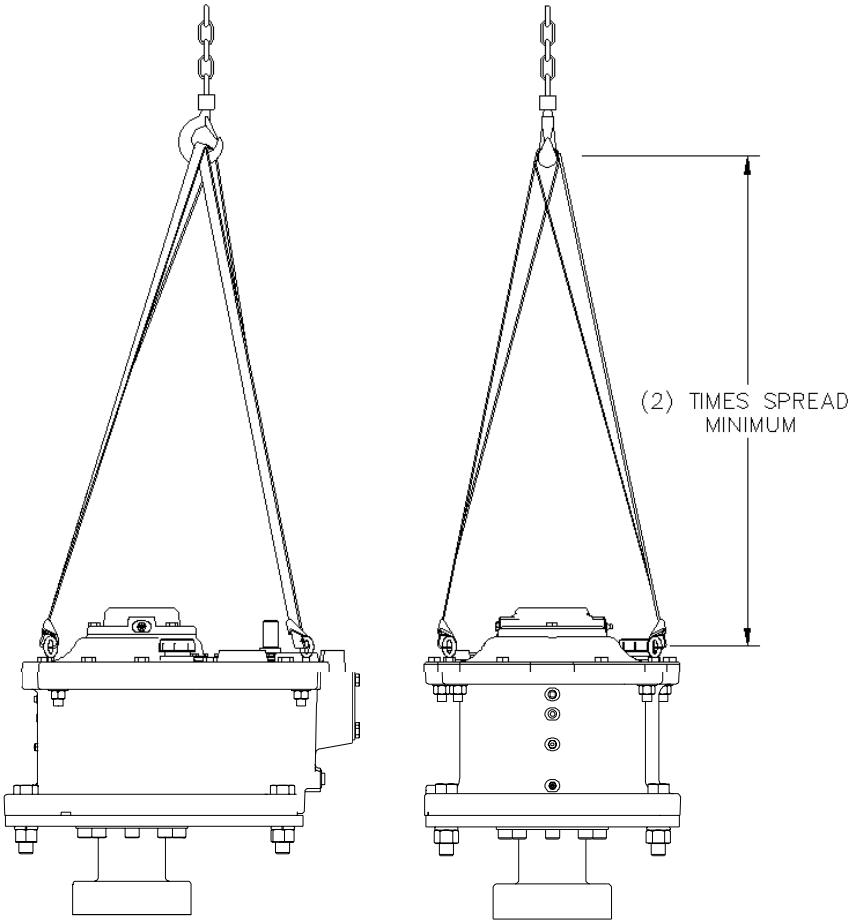

Figure 5. Model 20 Drive Lifting
3. Using a crane or hoist, attach lifting chains to gearcase see (*Figure 5, page 7*).